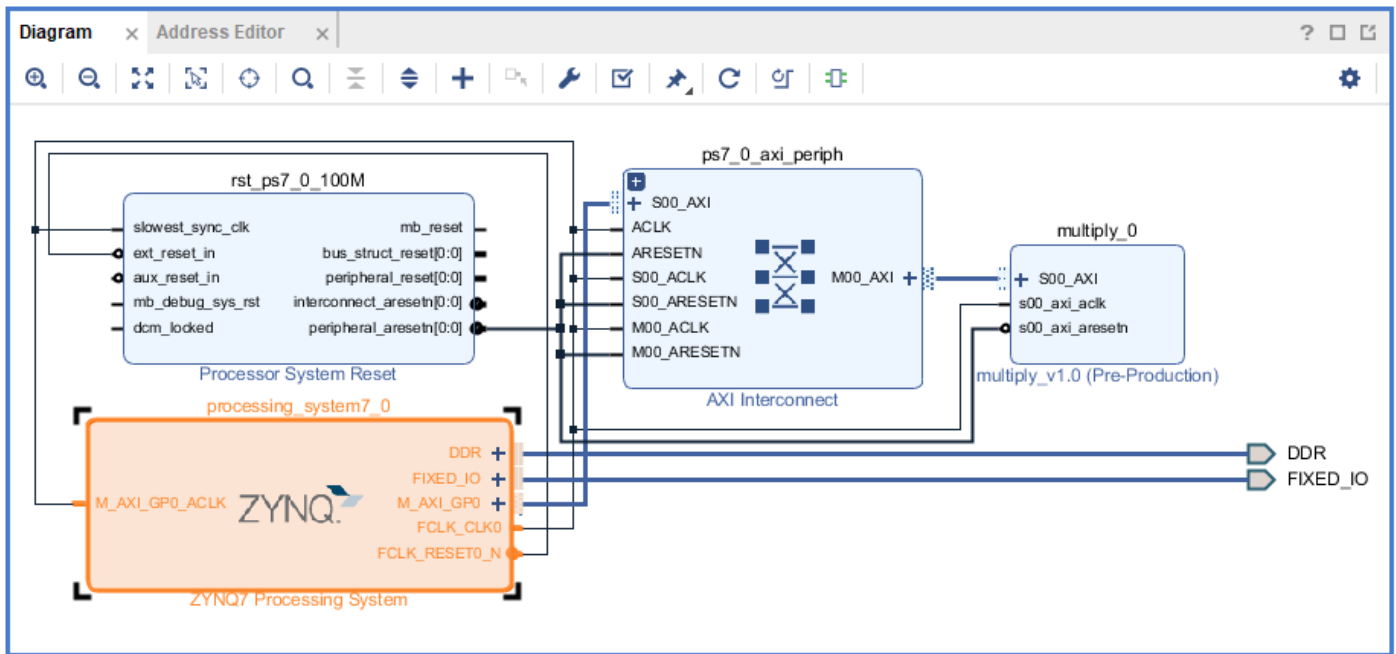

Figure 15: Layout of the Design
7. Now, select the Vivado window which has the PS system. Open the diagram tab and add 'multiply' IP to the PS system. Select 'Run Connection Automation' and in the prompted window select 'All Automation' and click 'OK'. Once automation is completed, a layout is generated. Right click on the diagram and select 'Regenerate Layout' to redraw the layout design. The layout is shown in Figure15. A 'Processor System Reset' block is also created which synchronizes the peripheral and interconnect reset to clock.